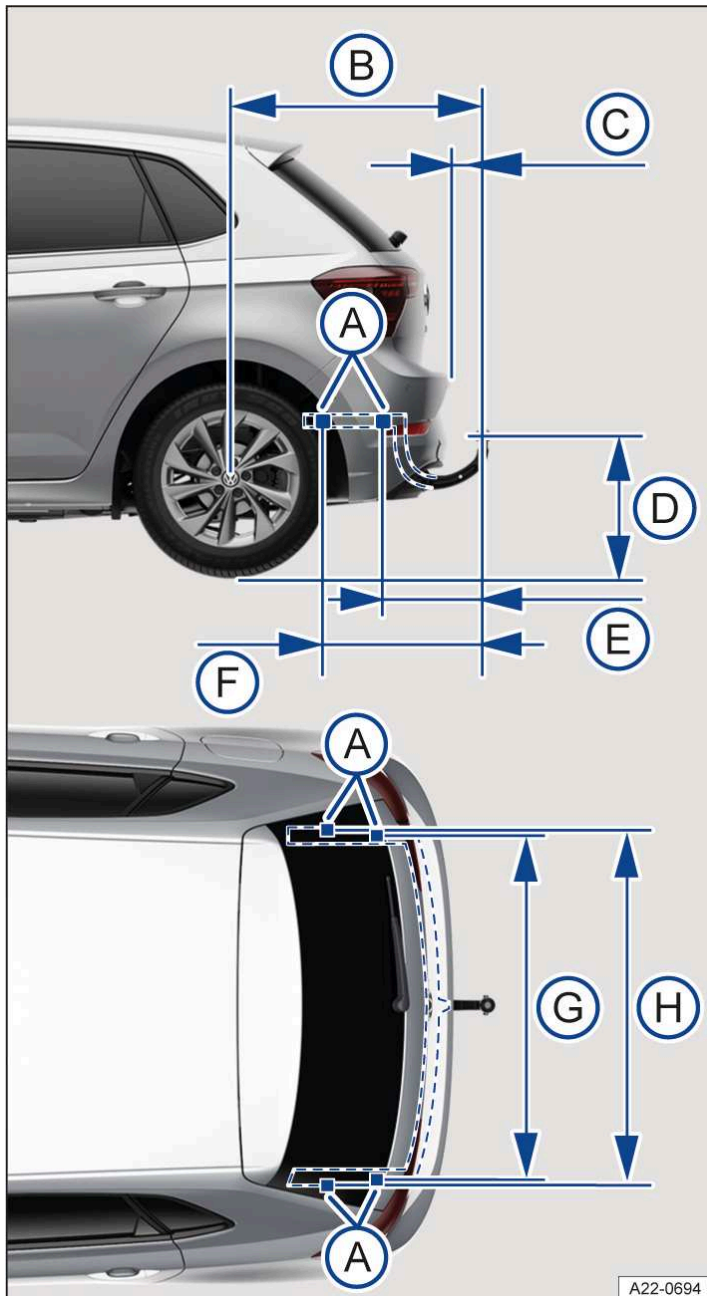

Fig. 1 Dimensions and mounting points for retrofitting a towing bracket.
The distance dimensions → Fig. 1 must be observed in all cases when retrofitting a towing bracket. Always observe the minimum distance given from the middle of the ball coupling (D) to the surface of the road. This also applies when the vehicle is fully laden, including maximum drawbar load.
- (A) Attachment points.
- (B) 798 mm (approx. 31.4 in)
- (C) at least 65 mm (approx. 2.6 in)
- (D) 350 to 420 mm (approx. 13.8 to 16.5 in)
- (E) 333 mm (approx. 13.1 in)
- (F) 459 mm (approx. 18 in)
- (G) 1,025 mm (approx. 40.4 in)
- (H) 1,031 mm (approx. 40.6 in)